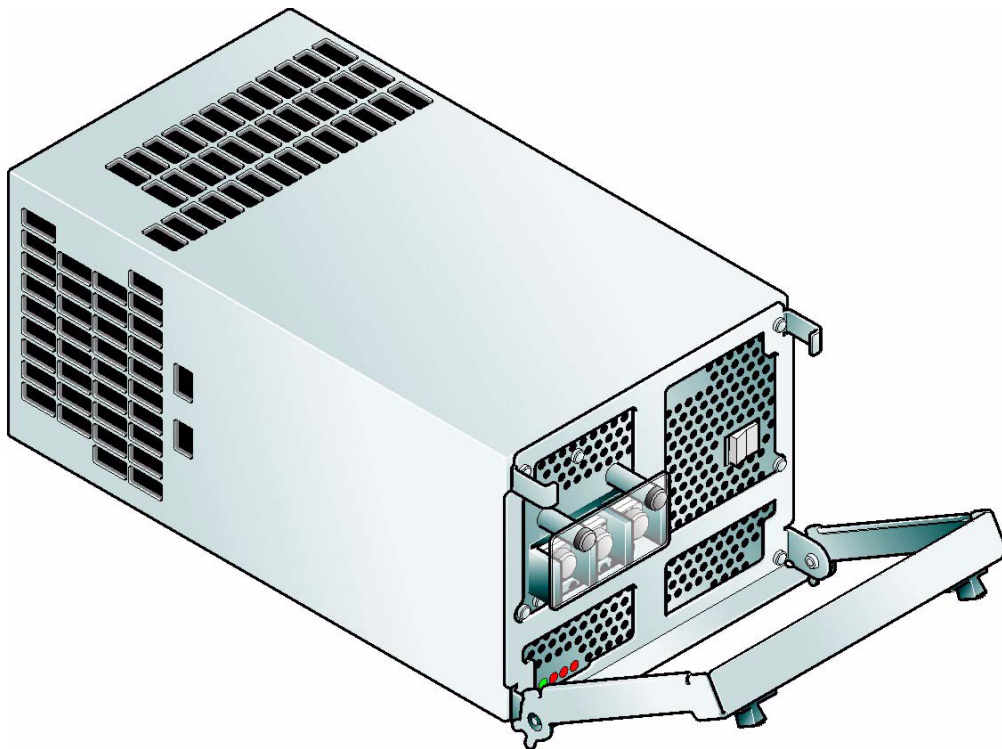

Figure 4-5 Removing/Inserting a -48V Power Supply/Cooling Module (2)
- 2 With the PSU handle (Figure 4-5) in the open position, slide the module into the enclosure.